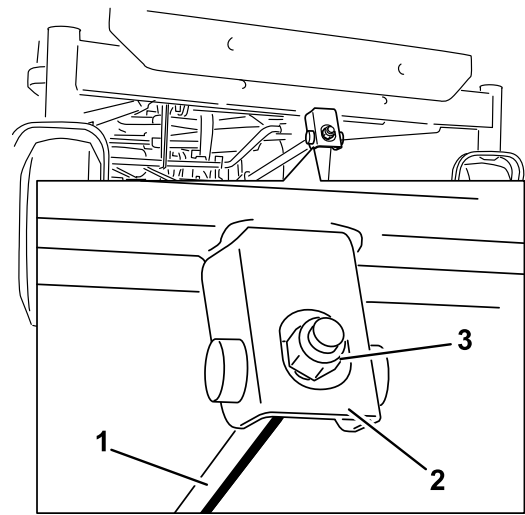

Figure 53
6. To adjust the front-to-rear blade slope, rotate the adjustment nut in the front of the mower (Figure 53).